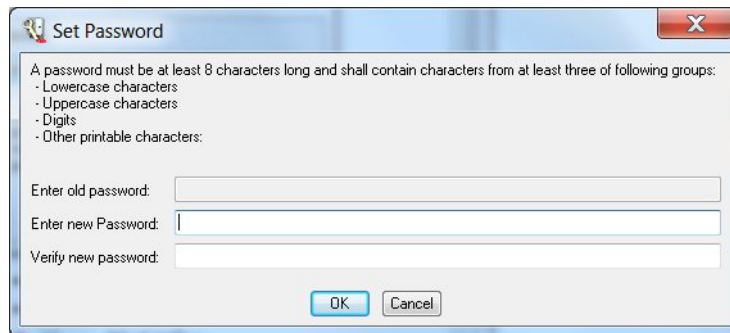

Figure 49. Password dialog box
2. Click **Set Password**. The Password dialog opens, see Figure 49.